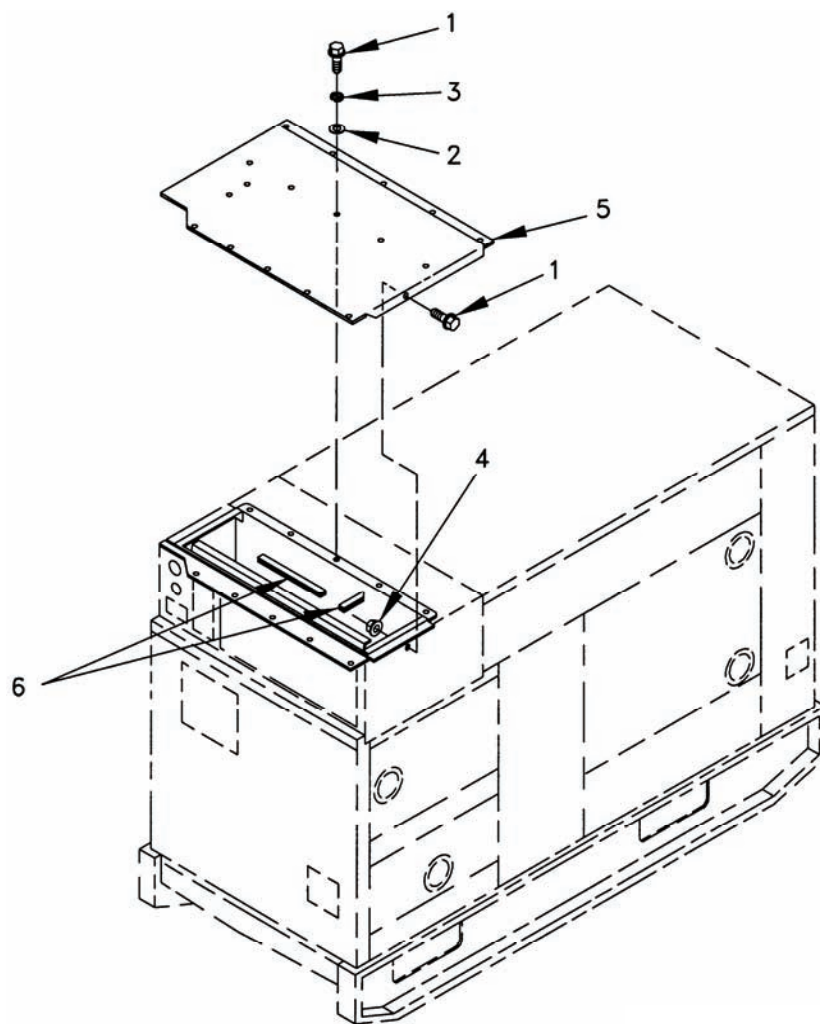

Figure 5-3. Control Box Top Panel.
- b. Remove 16 bolts (1, Figure 5-3), flat washers (2), lock washers (3), and two nuts (4) from control box top panel (5). Discard lock washers (3).